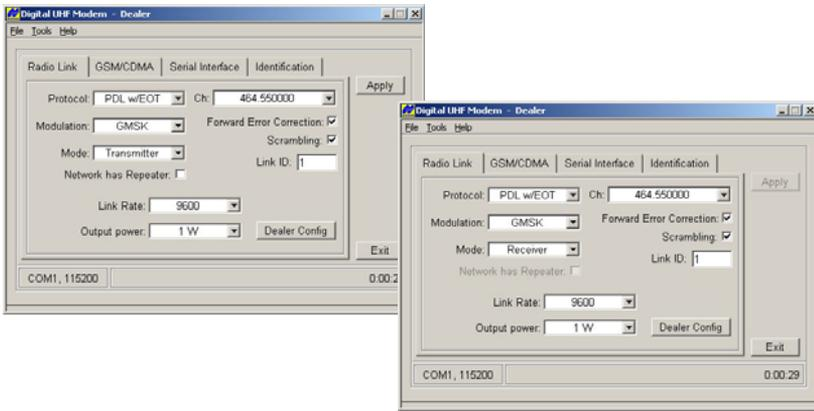

Figure 3-2. Apply Radio Link and Baud Rate Parameters
- On the *Radio Link* tab, set the following parameters (Table 3-1) for the base station’s and rover’s radio modem, and click **Apply** (Figure 3-2 on page 3-6).